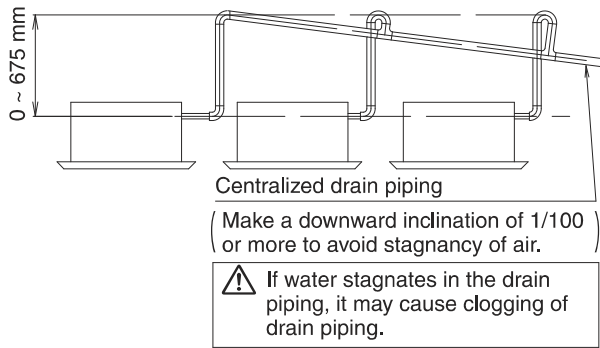

Fig. 17
- To avoid the attached drain hose (1) getting excessive force, do not bend nor twist it. It may cause water leakage.
- In case of centralized drain piping, carry out piping work according to the procedure shown in the following Fig. 17.